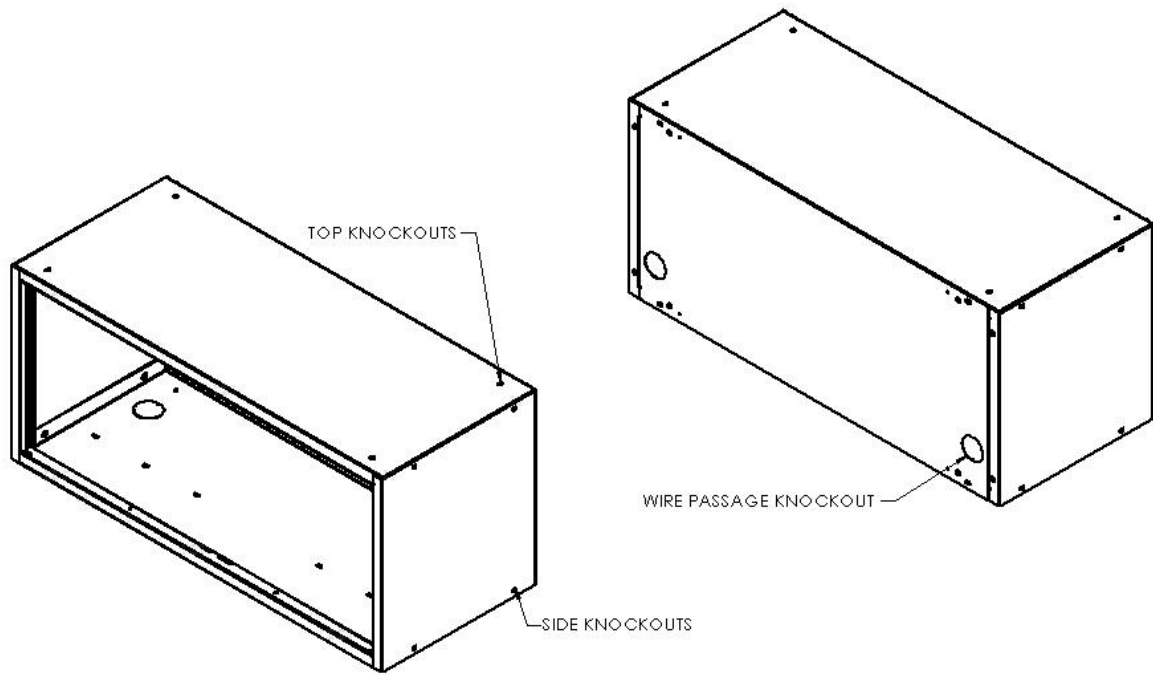

Figure 3 – Knockout Removal
3. Punch out all required Top Cover and Bottom Side Knockouts (see Fig. 3) towards inside of the cabinet using a mallet and flat head screwdriver (Punch out the knockouts that will be on the “seam” where two Cabinets meet together only. Do not punch knockouts that will not be against another OHC).